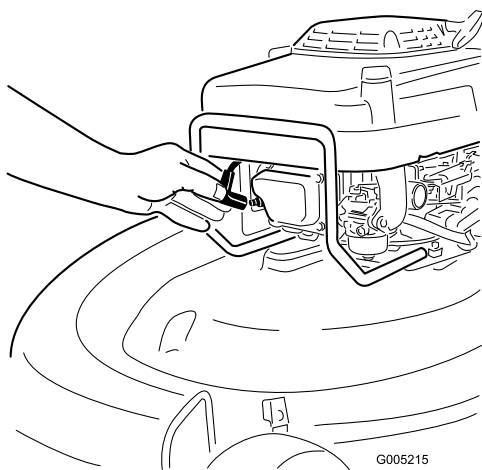

Figure 10
1. Connect the wire to the spark plug (Figure 10).